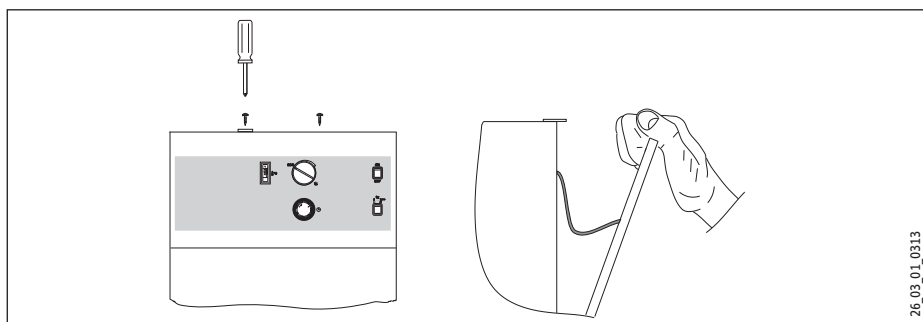
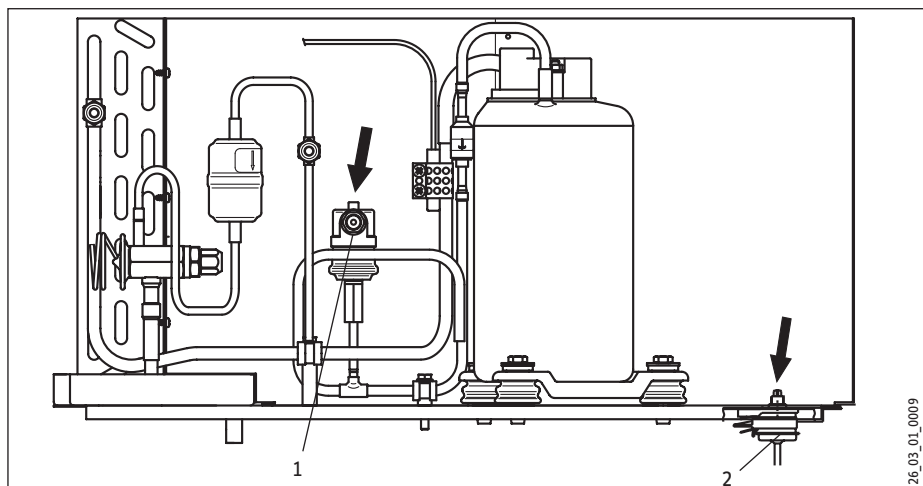

Abb. 2a
Abb. 3
This will shut the equipment down if the DHW temperature exceeds 95 °C. Reset the high limit safety cut-out by pressing the reset button (item 2, Fig. 3), after the cause of the fault has been removed. For this, open the equipment as shown in Fig. 2a.
The safety high pressure limiter shuts down the compressor, if the pressure inside the refrigerant circuit exceeds the permissible maximum value. The safety high pressure limiter may also respond, if the WWK 300 is operated above its permissible limit (>35 °C exhaust temperature). Reset the safety high pressure limiter by pressing the reset button (item 1, Fig. 3), after the cause of the fault has been removed. For this, open the equipment as shown in Fig. 2a.